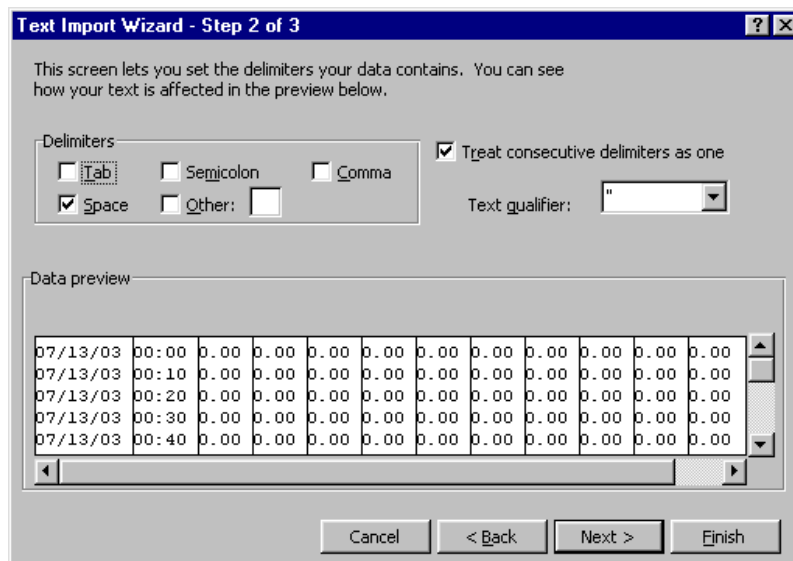

Figure 109: Step 2 - text import wizard
4. When the *Text Import Wizard – Step 2 of 3* screen appears, configure the settings as shown in Figure 109 and click **Next**.